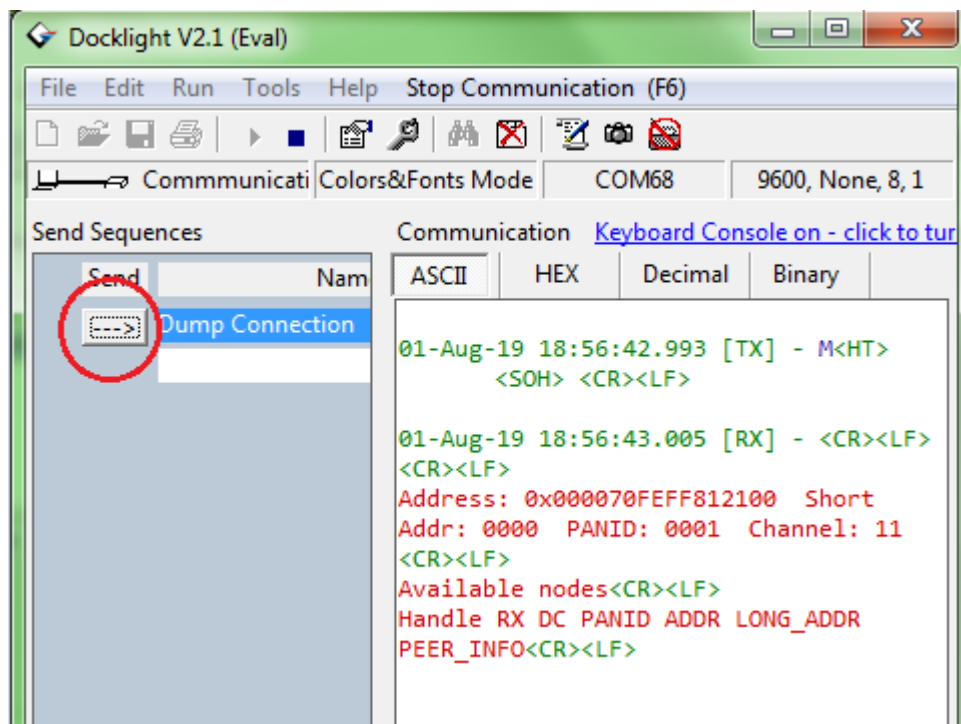

Figure 8: Dump Connection response
6. Now a Dump Connection command will appear in Send Sequence list. User can add multiple commands to Send Sequence list in Docklight. Command can be sent to Yoda by clicking on the Arrow next to the command. [Figure 8]